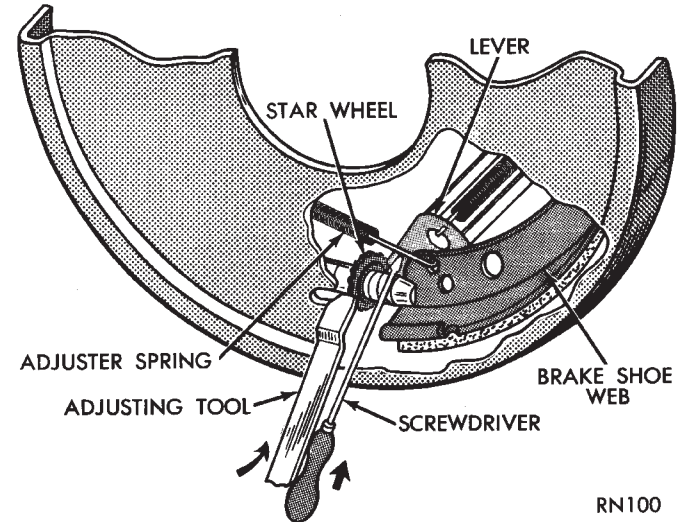

Fig. 54 Brake Adjustment
(1) Be sure parking brake lever is fully released.
(2) Raise vehicle so rear wheels can be rotated freely.
(3) Remove plug from each access hole in brake support plates.
(4) Loosen parking brake cable adjustment nut until there is slack in front cable.
(5) Insert adjusting tool through support plate access hole and engage tool in teeth of adjusting screw star wheel (Fig. 54).